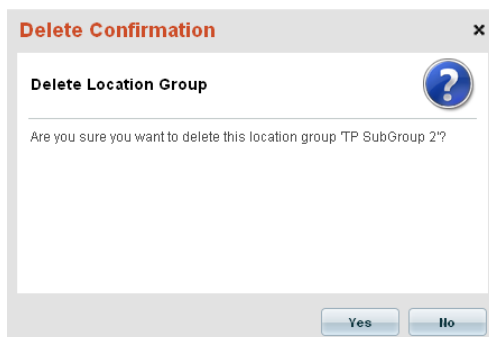

FIG. 181 Delete Location Group Confirmation dialog
3. The system will prompt you to verify this action before the Group is deleted, via the *Delete Confirmation* dialog (FIG. 181):